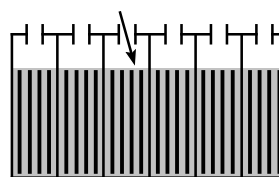

FIG. 96
- Check the electrolyte level in all batteries (Figure 96). See BATTERIES.